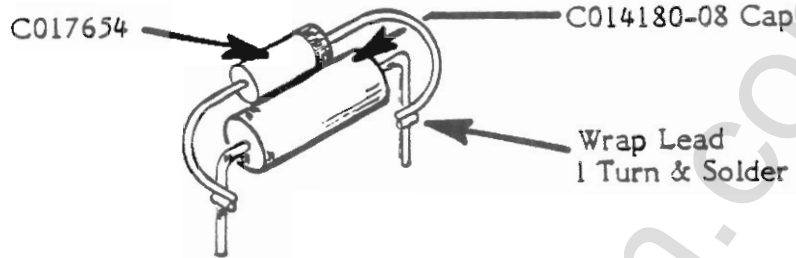
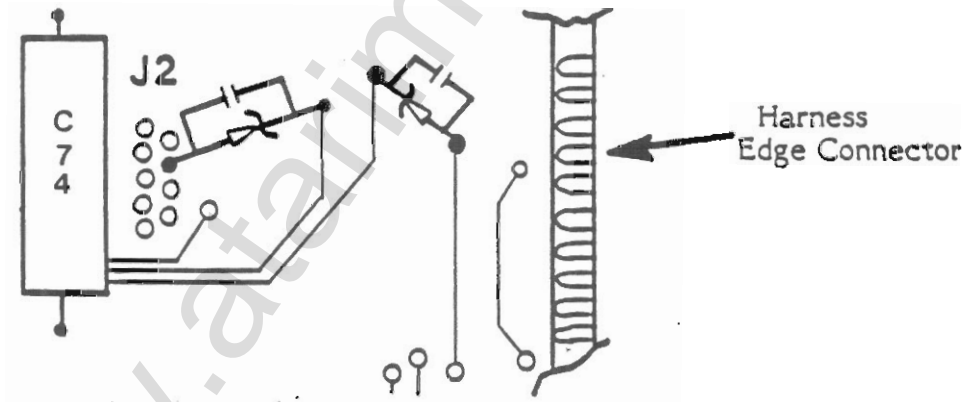

Figure 3-1. POP Static Modification (Zener Diode)
Figure 3-2. Assembly Installation
- B. Attach the Zener Diode to the capacitor (See Figure 3-1).
- C. Make certain the holes into which the assembly (built in Figure 3-1) is to be inserted are clear of all solder.
- D. Insert and solder the two assemblies (built in Figure 3-1) into the two locations indicated on the POP PCB (See Figure 3-2).